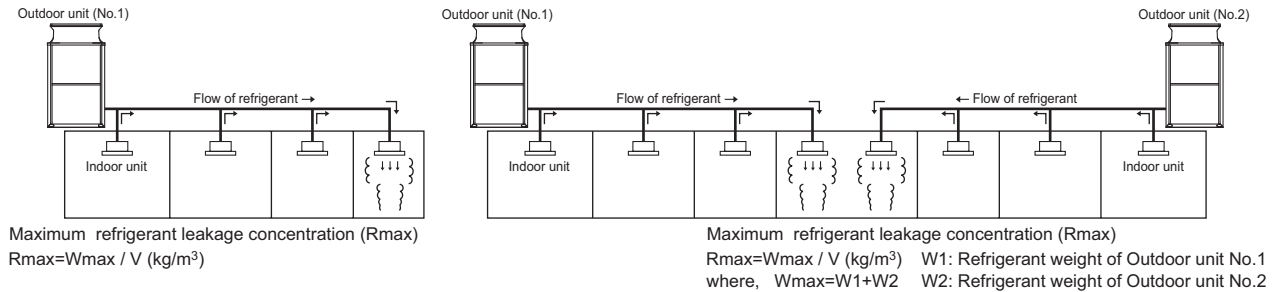

Fig. 6-1 The maximum refrigerant leakage concentration
The maximum refrigerant leakage concentration (Rmax) is defined as the result of the possible maximum refrigerant weight (Wmax) leaked into a room divided by its room capacity (V). It is referable to Fig.6-1. The refrigerant of Outdoor unit here includes its original charge and additional charge at the site.